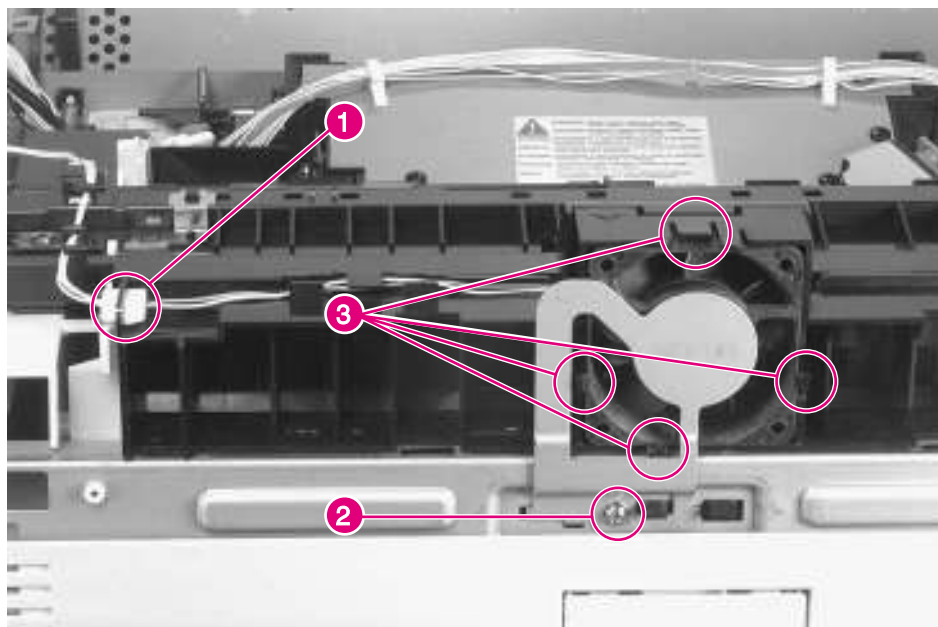

Figure 6-23 Fan 4, Delivery Unit
- 2 Unplug the fan cable (figure 6-23, callout 1).
- 3 Remove 1 screw (figure 6-23, callout 2), and remove the metal fan shield.
- 4 Release 4 retainer clips (figure 6-23, callout 3), and slide the fan forward out of the Delivery Unit Assembly.